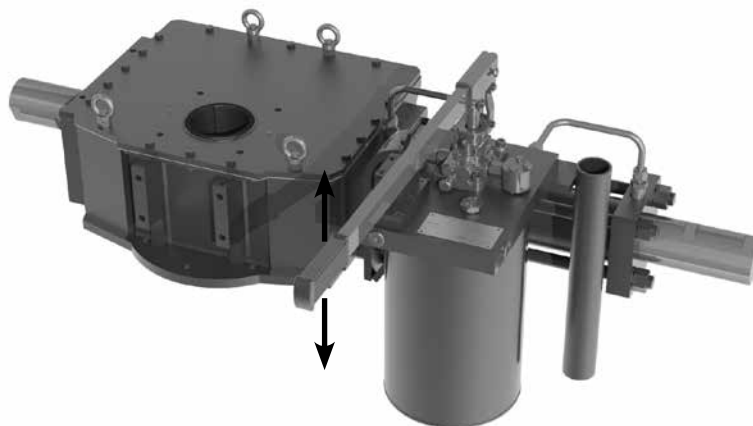

Figure 19 – Hydraulic Hand Pump Manual Override installed on LHS Single Acting Actuator
3.1.5.1.3 To stroke the actuator in the close direction, switch the manual selector (4/2MV) to the CLOSE position indicated on its nameplate and operate the PMP manual hand pump, acting on the lever (Figure 19).
3.1.5.1.4 To stroke the actuator in the open direction, switch the manual selector (4/2MV) to the OPEN position indicated on its nameplate and operate the PMP manual hand pump, acting on the lever (Figure 19).